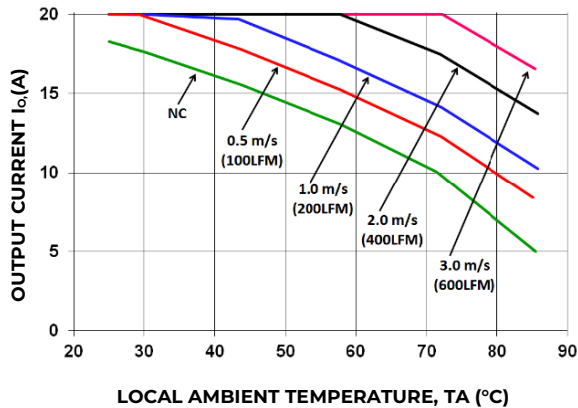

Figure 20. Output Current Derating for the Open Frame EBVW020A0B in the Transverse Orientation; Airflow Direction from Vin(-) to Vin(+); Vin = 48V.
Increased airflow over the module enhances the heat transfer via convection. The thermal derating of figures 20 through 22 show the maximum output current that can be delivered by each module in the indicated orientation without exceeding the maximum THx temperature versus local ambient temperature (TA) for air flows of, Natural Convection, 1 m/s (200 ft./min), 2 m/s (400 ft./min).
The use of Figures 20 is shown in the following example:
Determine required airflow (V) (Use Figure 20):